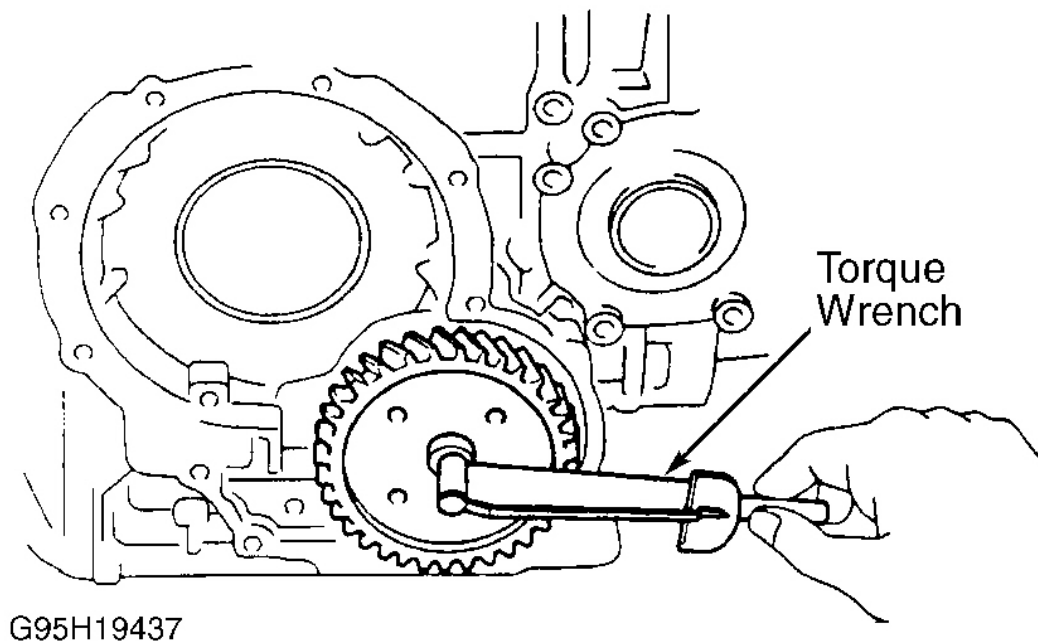

Fig. 17: Checking Driven Pinion Preload Or Total Preload
1. Using INCH-lb. torque wrench, measure and record differential total preload. See **Fig. 17** . Remove left differential bearing retainer. Ensure case or retainer is not damaged if prying is necessary.
3. From converter side of case, remove drive pinion cap. Using INCH-lb. torque wrench, measure drive pinion preload. See **Fig. 17** . Starting preload should be 4.3-6.9 INCH lbs. (.5-.8 N.m). Subtract drive pinion preload from total preload.